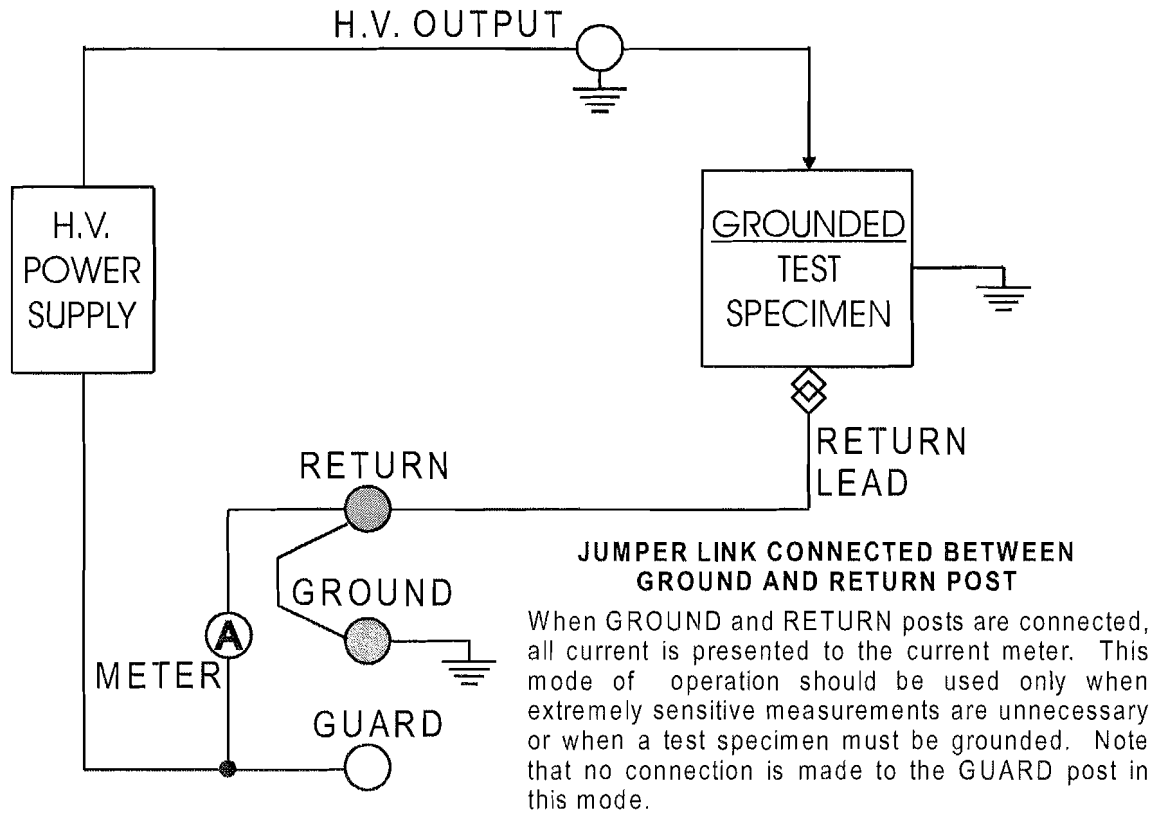
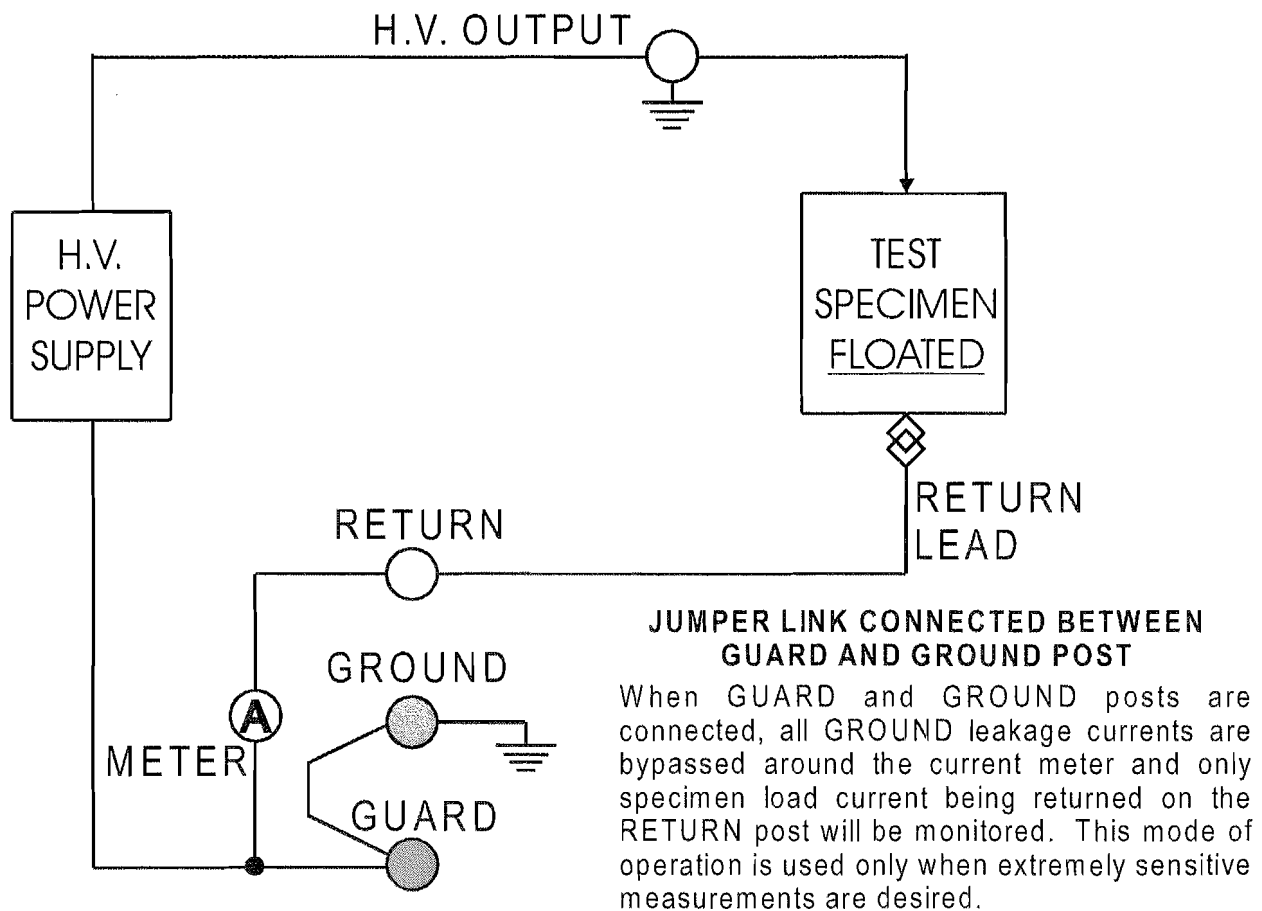

Figure 3 Jumper Link Connected Between Ground and Return Post
Figure 4 *Jumper Link Connected Between Ground and Guard Post*
There are three connection posts on the front panel labeled **GUARD**, **GROUND**, and **RTN**. **GUARD** or **RTN** must *always* be connected to **GROUND** by a jumper when testing. **Figure 3** and **Figure 4**, illustrate these connections.
5. Connect the insulated return leads supplied with the unit as illustrated in Figure 3 and Figure 4.